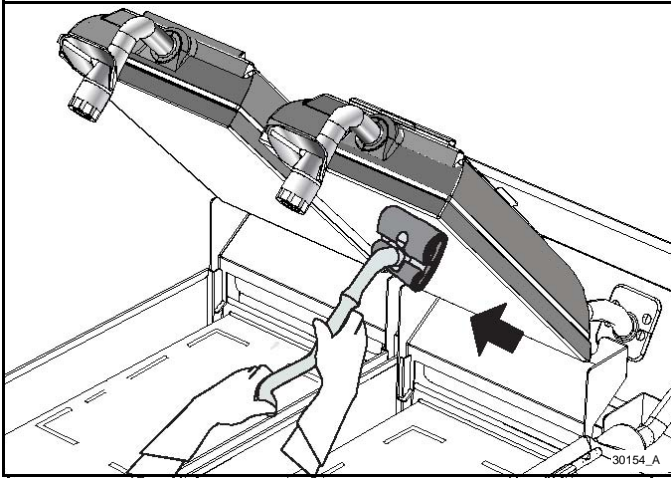

Figure-116
23. Scrub the upper and lower platen with the grill cleaning pad and holder. See Figure-116.